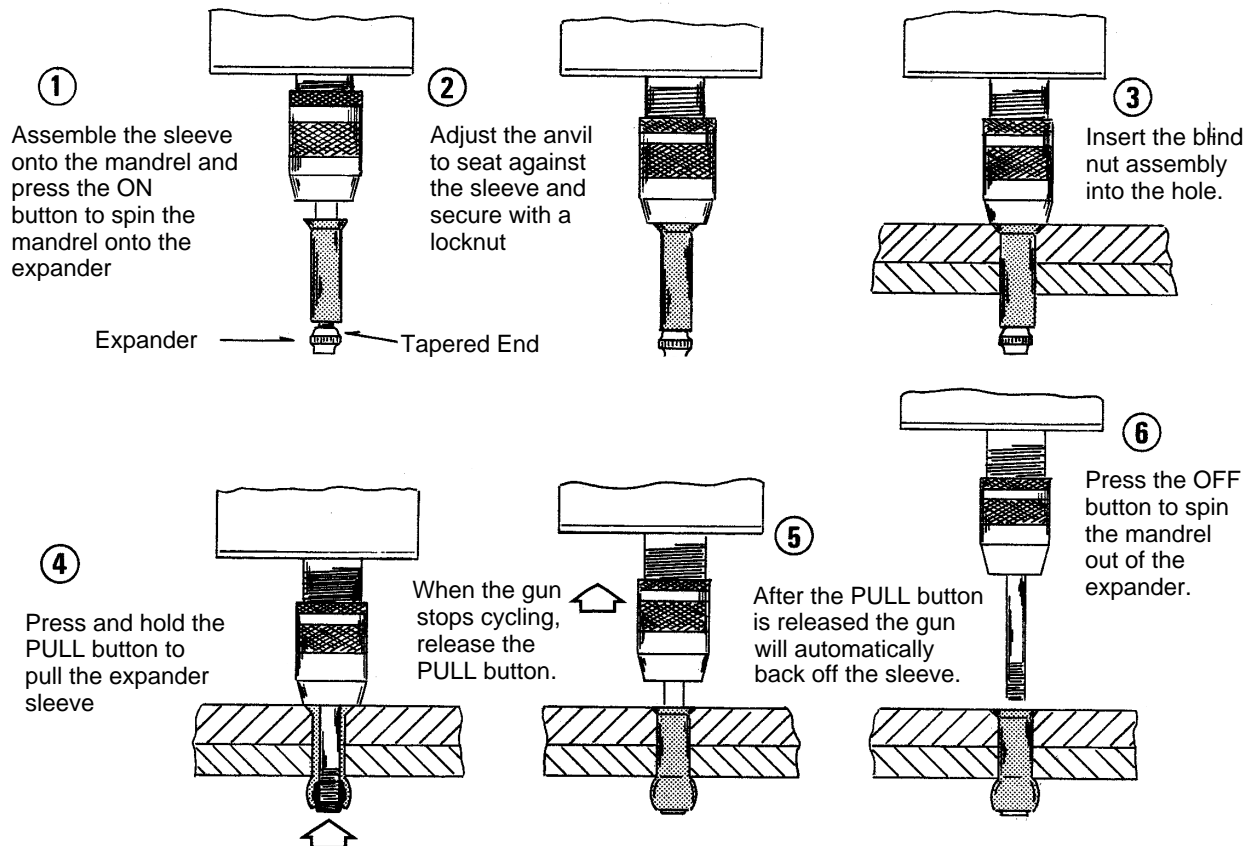

Figure 7 - Installation of Blind Nut using Power Tools
5.6.1 Install blind nuts using a BG2500 power tool as follows (see Figure 7):